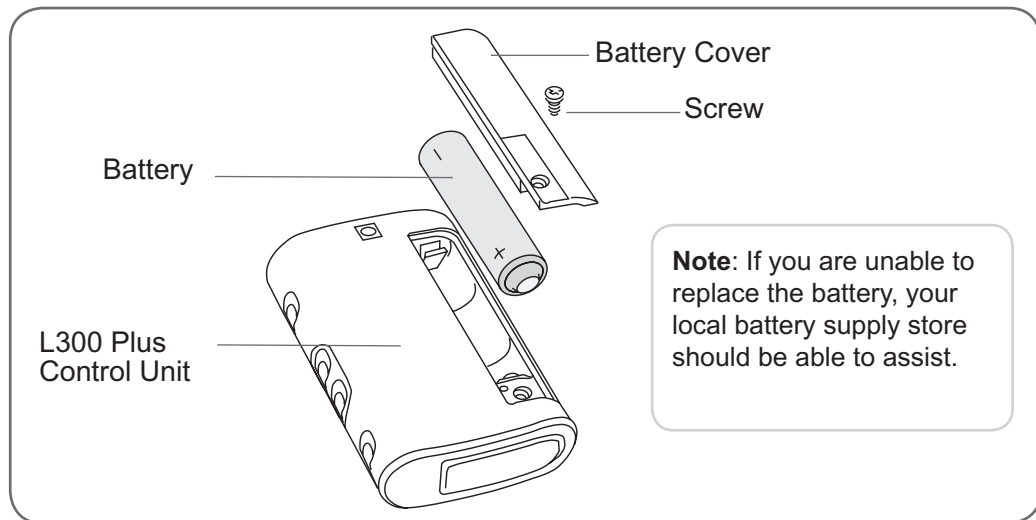

Figure 9-5: Replacing the L300 Plus Control Unit battery.
1. Remove the screw from the battery cover on the back of the L300 Plus Control Unit. See Figure 9-5. (The screw is under a small label. Gently peel off the end of the label. Reapply the label after the battery is replaced.)